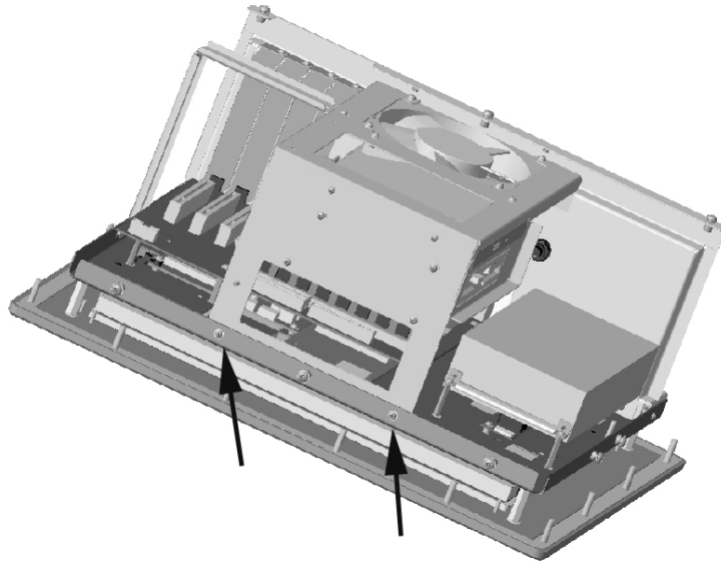

Figure 2 Drive Bridge Screw Locations
2. To access the RAM slots the “drive bridge” must be flexed slightly upwards. Using a 1 point Phillips screwdriver remove the screws identified in Figure 2. Flex the bridge assembly upwards until there is enough clearance to allow access to the RAM slots.